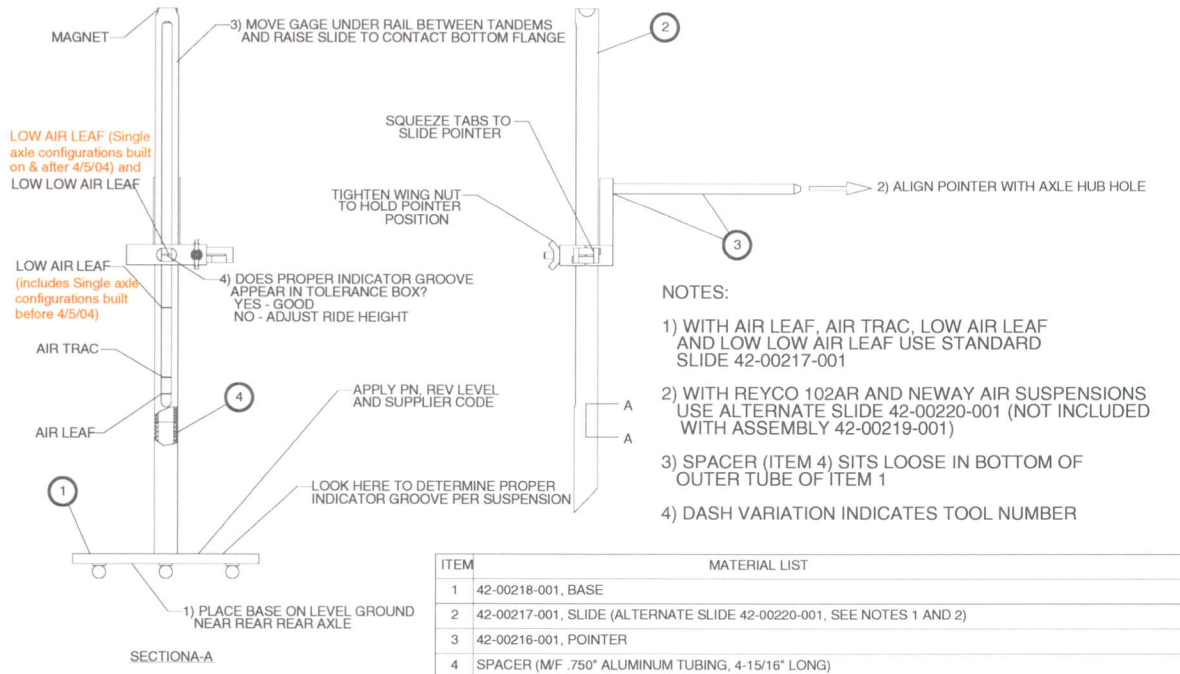
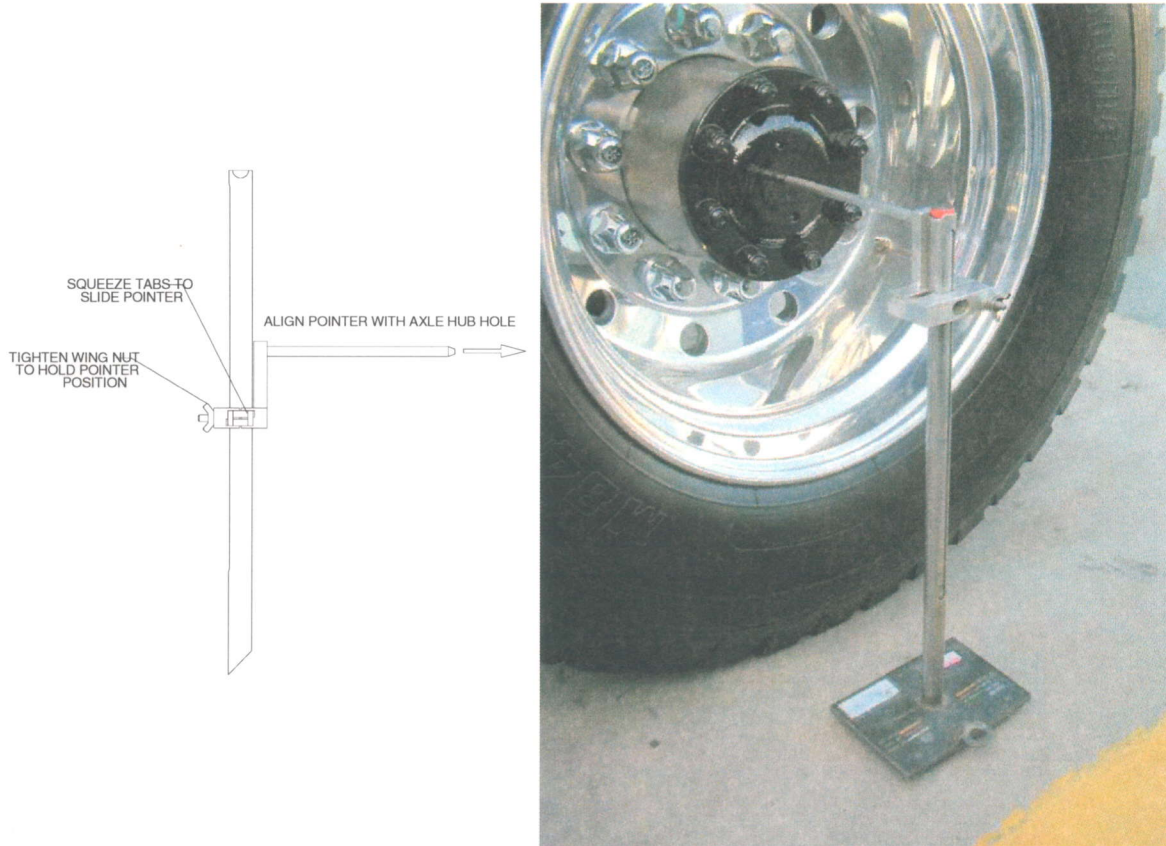

Figure 1 Illustration of Ride Height Gauge
Figure 2 Illustration of Aligning The Pointer of a Ride Height Gauge
5. Ensure that the ride height gauge has the correct slide installed for the suspension on the vehicle (see "NOTES" in Figure 1).
6. Place the ride height gauge near the rearmost axle such that the base is on level ground (see Figure 1 and Figure 2).
7. Align the pointer of the gauge with the axle hub hole (see Figure 2).